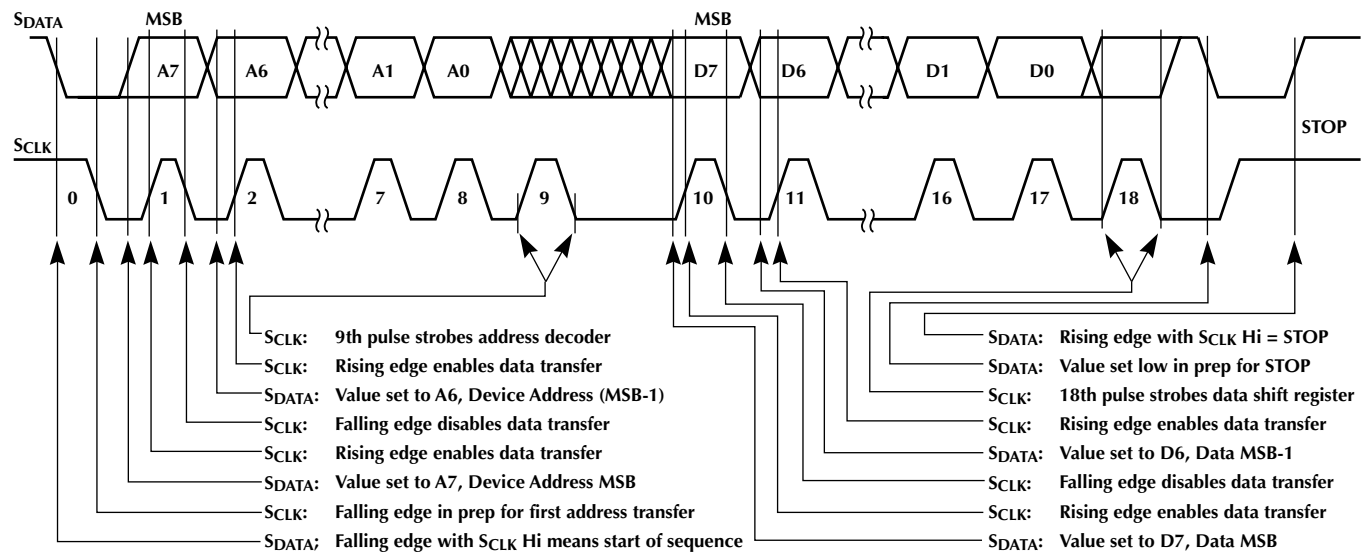

Figure 6. Definition of DATA FORMAT on Serial Data Bus
**Register Addressing:** Figure 6 shows the register map of the ML6430/6431. There are two basic parts of each received data byte: Address Nibble and Data Nibble